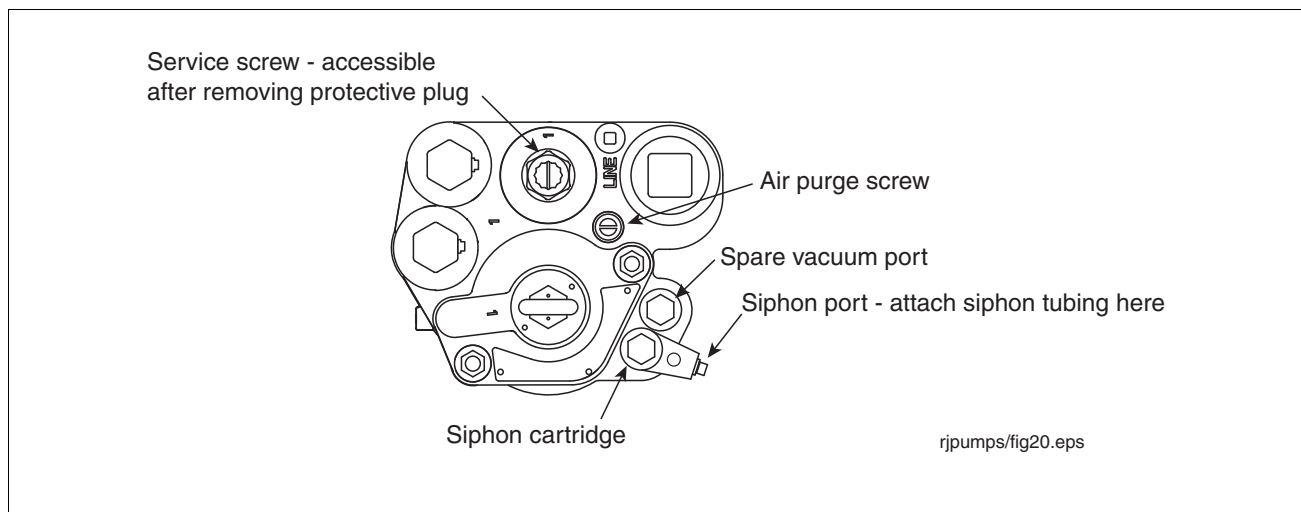

Figure 26. Siphon ports
2. Remove and save the protective plug over the service screw and turn the screw clockwise (see Figure 26). As the screw approaches its bottom position, you will hear the system depressurizing. Continue turning the screw until it can go no further. When the screw is all the way down, back off the screw 4 turns to lift the check valve and let the fuel drain out of the manifold's hydraulic cavities.
3. Remove one of the two siphon port plugs from the manifold (see Figure 26).
9. Turn the air purge screw 2 - 3 turns counterclockwise (see Figure 26).
2. Remove and save the protective plug over the service screw and turn the screw clockwise (see Figure 26 on page 26). As the screw approaches its bottom position, you will hear the system depressurizing. Continue turning the screw until it can go no further. When the screw is all the way down, back off the screw 4 turns to lift the check valve and let the fuel drain out of the manifold's hydraulic cavities. Continue to turn the screw counterclockwise until you hear the check valve drop down into position.
8. Open the air purge screw 2 - 3 turns counterclockwise (see Figure 26).